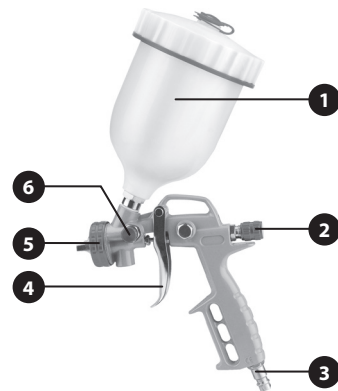

Fig. 2
- **In the event that the pistol nozzle becomes clogged while spraying, release the gun's control lever, disconnect the gun from compressed air, and then use a needle or a thin wire to clean out the gun's needle tip area (it might be necessary to press the control lever for the gun's needle to clear the hole). It may be necessary to remove the needle out of the gun and clean it out, and then flush the system with solvent. To remove the needle, it is necessary to screw out the air flow regulator (fig.2, position 2) and remove the needle together with the compression spring. In the event that the nozzle on the mist spray or air blow gun become clogged, likewise clear it out with a thin sharp object (needle or wire).**